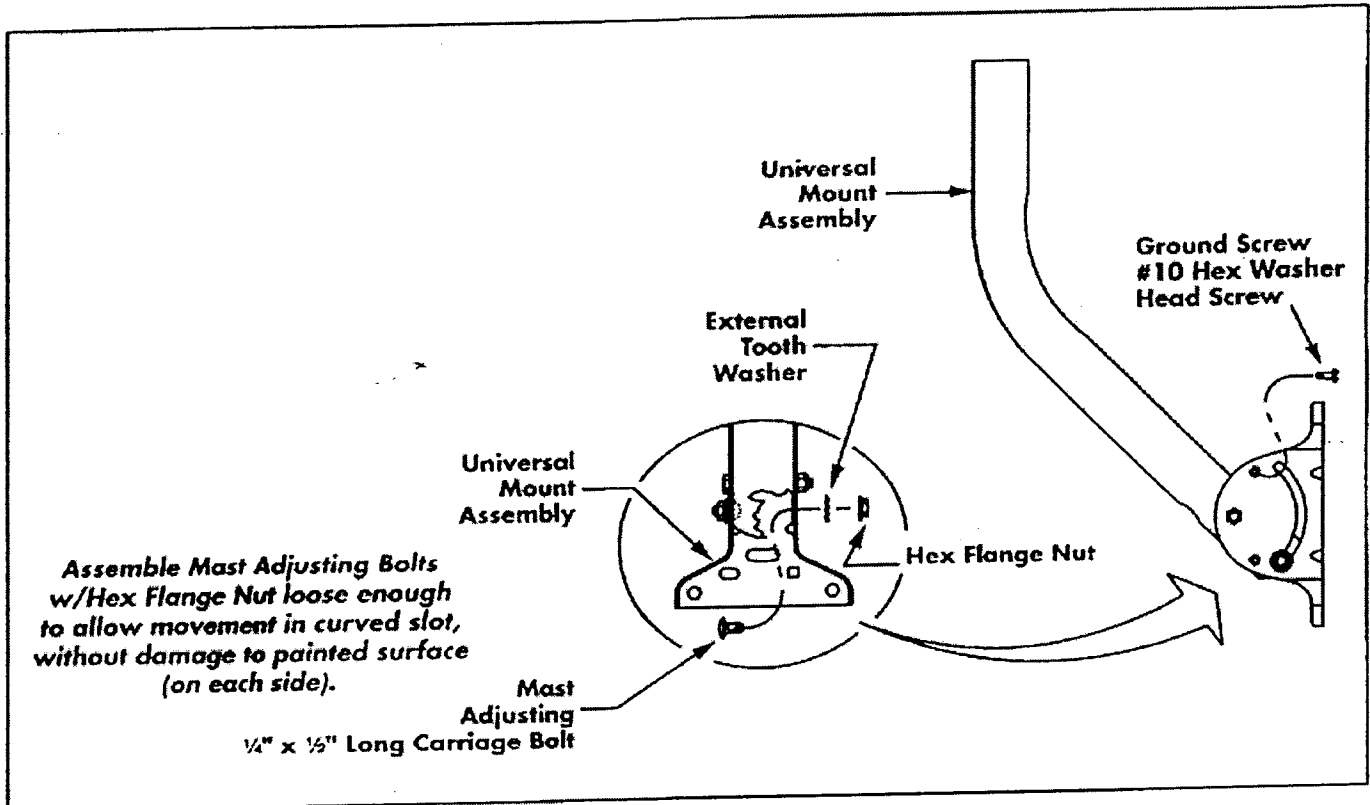

FIGURE 1
1. On universal mount assembly insert (2) $\frac{1}{4}$ " x $\frac{1}{2}$ " long carriage bolts through mast and bracket slot and capture with a external tooth washer and flange nut. Install #10 self-tapping screw for ground wire attachment. See Figure 1.